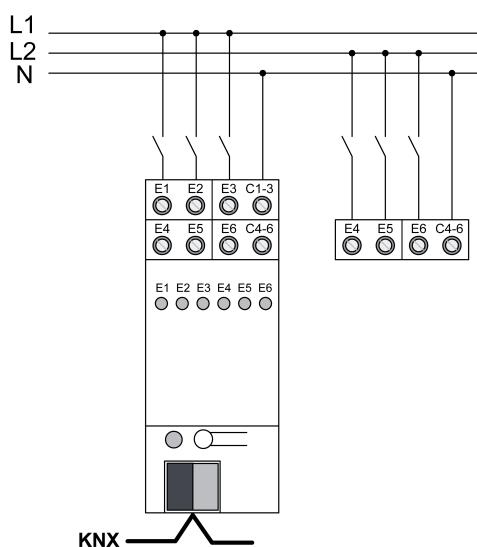

Figure 2: Connecting mains-powered circuits
- Connecting mains-powered circuits according to the connection example (figure 2).
- Connecting FELV circuits in the same way as mains-powered circuits (figure 2).